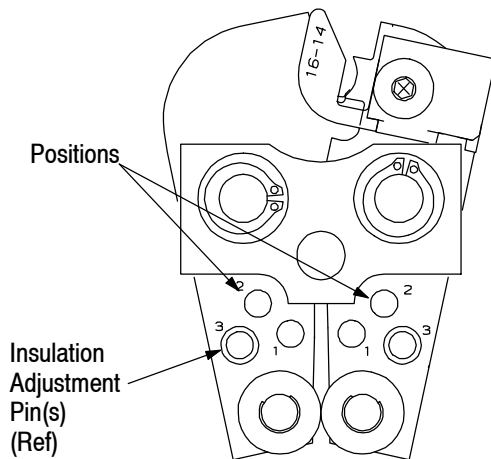

Figure 5
1. Insert insulation adjustment pins in Position 3. See Figure 5.
Always place both adjustment pins in the same position. See Figure 5.
1. Perform insulation crimp adjustment by placing adjustment pins in Position 3 (loose), as shown in Figure 5.